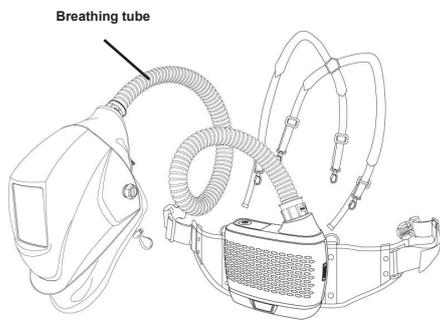
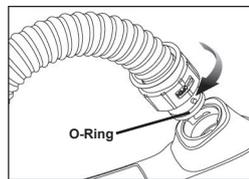

FIG. 21
FIG. 22
- Always inspect the end of the breathing tube to confirm the rubber O-ring is in place, see fig.22. Replace if missing or damaged.
Insert the two prongs on the breathing tube into blower unit and helmet receptacle (See fig.21), twist 1/4 turn to the anti "OPEN" direction to lock into place (See fig.22).